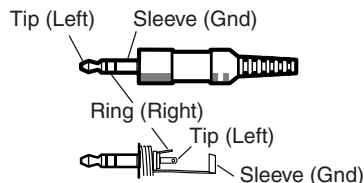

Figure 2-6 — Audio input connector wiring
- 2 Audio input (RGB 192 and 198 only)** — Connect the unbalanced stereo audio source (such as a computer or a CD player) to this 3.5 mm mini stereo jack for unbalanced audio input. Figure 2-6 shows how to wire the audio jack.